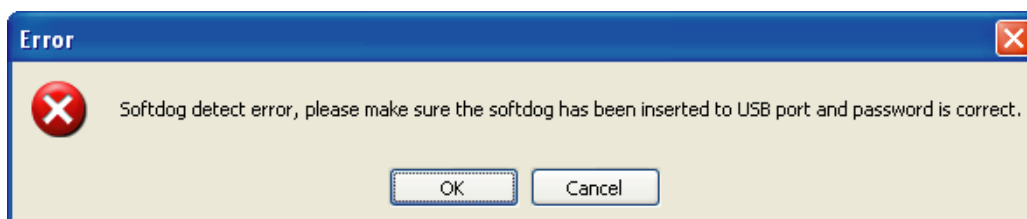

Fig.4-2
- 5) Be sure the softdog has been inserted to USB port all the time while the software is running, otherwise the softdog error dialogs displays as Fig.4-2.